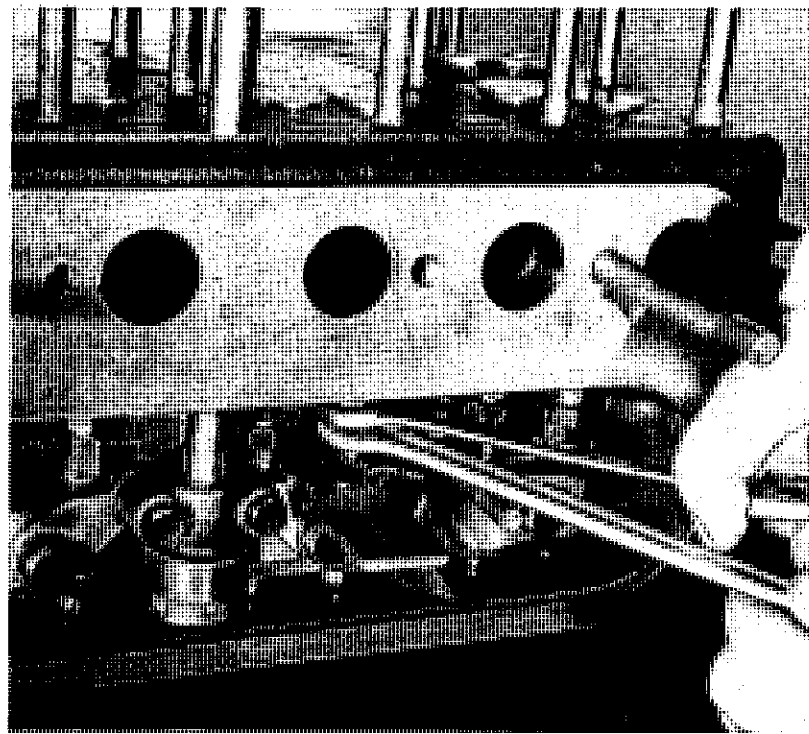

Fig. 21. Adjusting valve tappets with two spanners and tappet lock
2. Slacken off the lock nut on the tappet which is being adjusted with a suitable spanner ($\frac{1}{2}$ " A/F) whilst preventing the tappet from rotating by either the engagement of a spanner on its two flats ($\frac{13}{32}$ " A/F) or the employment of suitable wedge pieces inserted between the two tappets as shown in Fig. 21. Having slackened off the locknut another spanner should be used to rotate the lock nut, ($\frac{7}{16}$ " A/F) until a clearance of .015" is provided. Having obtained the correct clearance the lock nut should be secured, whilst preventing any movement of the tappet and adjuster screw. After tightening the locknut recheck the clearance with a .015" clearance gauge and ensure that this gauge is a push fit between the valve stem and adjuster